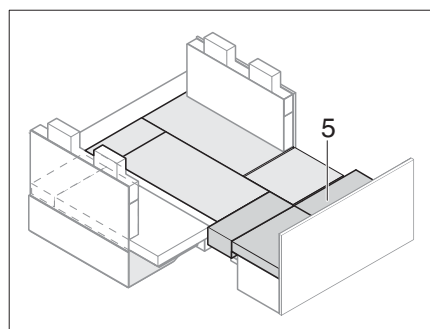

Fig. 200 After extending
- Insert the additional cushion (Fig. 200,5).